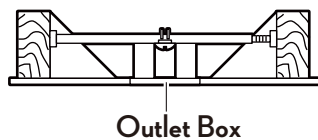

Figure 3
- To hang your fan where there is an existing fixture but no ceiling joist, you may need an installation hanger bar as shown in Figure 3 (available at your Retailer).